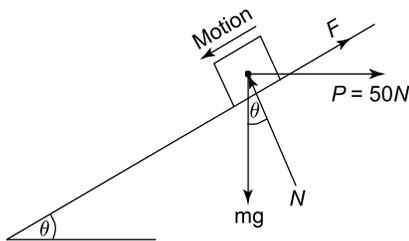

Figure 16.12
The primary forces for this problem are shown in Figure 16.12, where it can be seen that  $F$  is opposite to the direction of motion.
11. Determine the value for  $\theta$  which will just cause motion down the plane, when  $P = 250 \text{ N}$  and acts in the direction shown in Figure 16.12. It should be noted that in this problem, motion is down the plane,  $\mu = 0.5$  and  $m = 50 \text{ kg}$ . [ $\theta = 53.58^\circ$ ]